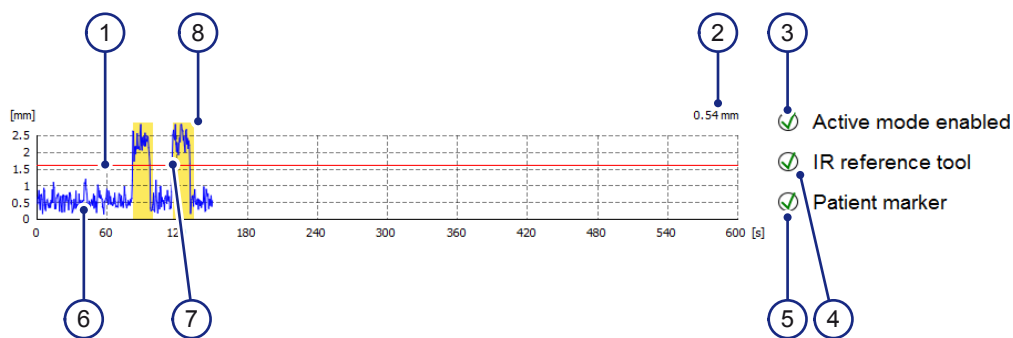

Figure 3.8 HDMM graph
Gating means that the system automatically prevents dose delivery. Gating (8) occurs during treatment with HDMM active mode enabled (3) if an HDMM alarm is active, see Figure 3.8.